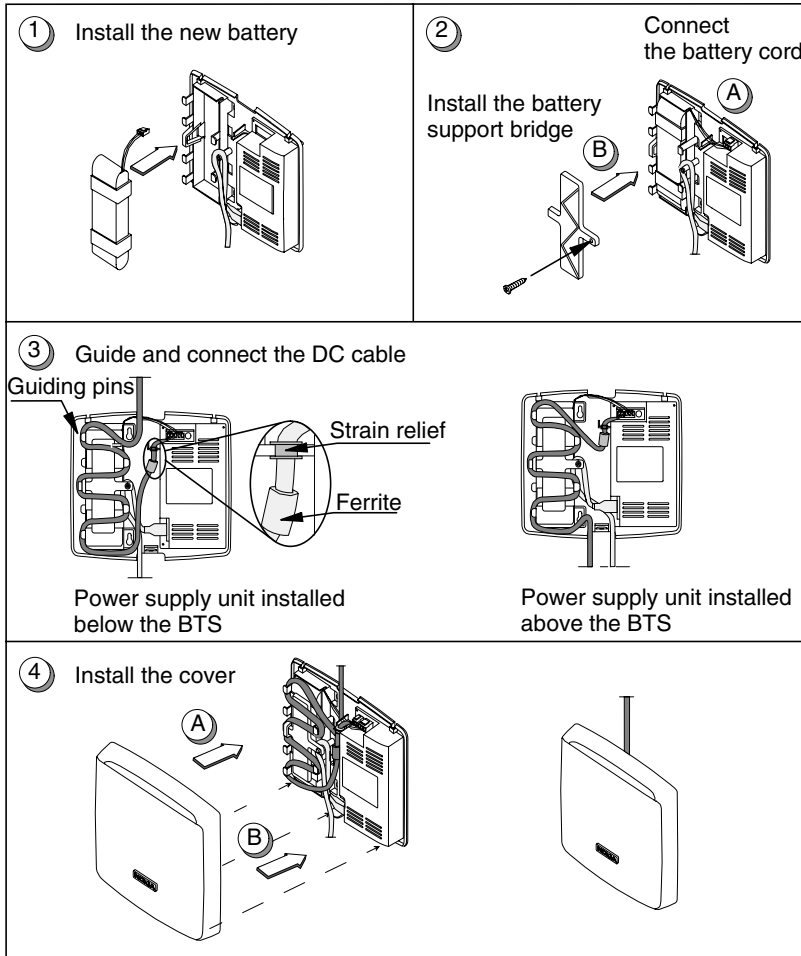

Figure 2. Installing the new battery into the power supply unit
1. Take the new battery and place it in the battery bay. See 1 of Figure 2. The battery label should remain visible in the lower part of the battery bay. The battery connection cord should be in its slot in the upper right corner of the battery bay.
2. Connect the battery connection cord to the 3-pin connector, and install the battery support bridge as shown in 2 of Figure 2.
DC cabling depends on the installation location of the power supply unit. Two different ways are illustrated in 3 of Figure 2.
3. Guide the DC cable around the guiding pins, if needed. Push the strain relief of the cable to the slot beside the connector. Connect the DC cable to the 2-pin connector. See 3 of Figure 2.
Install the power supply unit cover. First, press down the upper edge, then the lower edge, until the locking clip locks the cover on. See 4 of Figure 2.